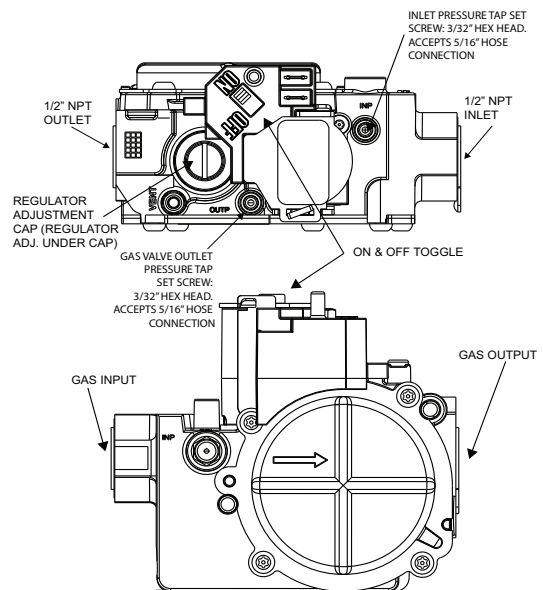

Fig. 68 – Gas Control Valve
- Loosen set screw on outlet tower pressure tap no more than one full turn with a 3/32 in. hex wrench, see Fig. 68.